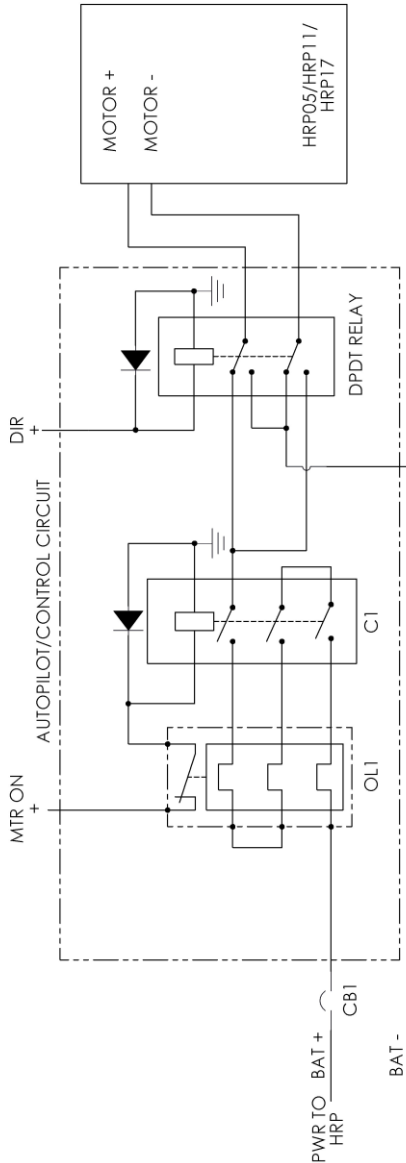

Figure 4: HRP Basic recommended wiring schematic
The minimum arrangement required to electrically operate the HRP is shown in Figure 4. This consists of a main contactor and thermal overload at “C1” and “OL1” respectively to provide the connection to the vessels main power supply. A secondary reversing contactor is required to reverse the polarity of the motor to provide bi-directional fluid flow. The input leads to the control circuit can be connected to an autopilot system as described in 4.3.1 or a jog style control as described in 4.3.2.
A circuit breaker, shown as “CB1” in Figure 4, is also required on the main power lead. This circuit breaker protects the equipment in the event of a short circuit, as the thermal overload will typically have a time delay before isolating the circuit. Sizing of the circuit breaker should be done as recommended by the thermal overload manufacturer to prevent damage to the overload during a large overcurrent condition. The circuit breaker must be sized so it’s fast acting portion (Magnetic trip curve) will protect the overload in the event of a short circuit or severe overcurrent. Heed must be given though to the maximum hard over current specified in Table 1, circuit breakers should be sized so the fast trip is above this value.
2. Observe the recommended thermal overload setting given in section 2.1 Table 1, and set the thermal overload, OL1 in Figure 4, to this value.